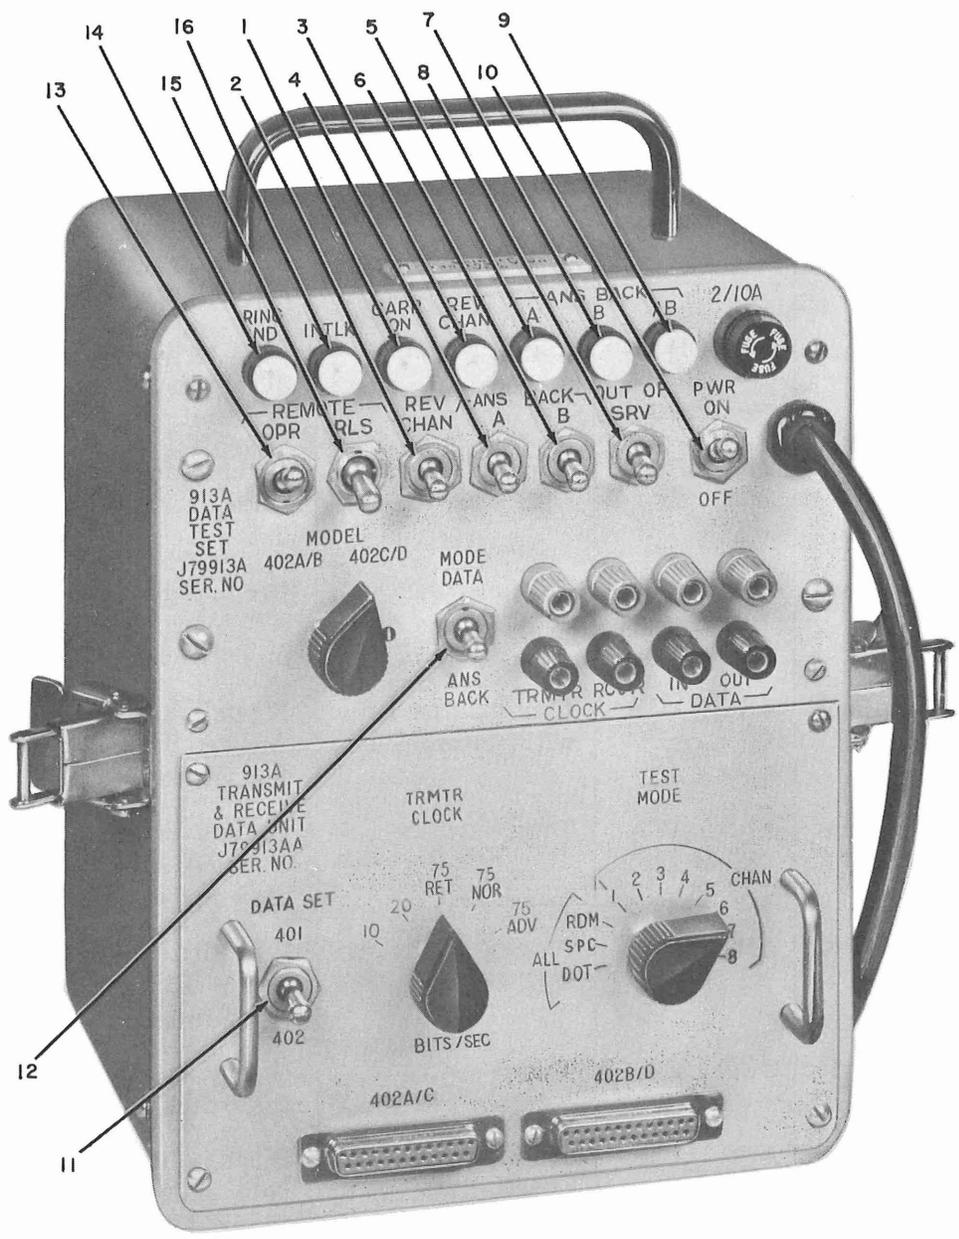

Fig. 7—913A Data Test Set, Toggle Switch, and Lamp Functions
4.02 Refer to Fig. 7 and Table A for a functional description of the 913A Data Test Set, toggle switches, and lamps.